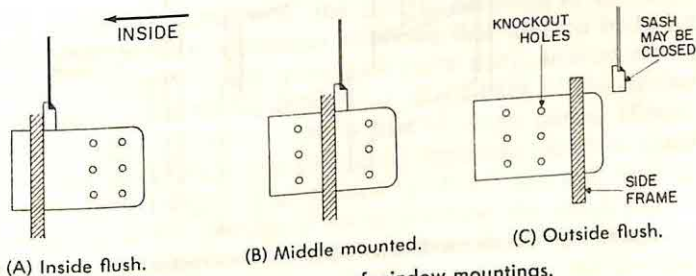

Fig. 4-8. The three types of window mountings.
In the installation given, the side angle brackets are first screwed into the recesses of the sash channels on each side of the window frame. Now the cabinet is slid off the unit. The center line of the cabinet is lined up with the center line marked off on the sill, and the cabinet is positioned for (1) inside flush mounting, (2) outside flush mounting, or (3) middle mounting (see Fig. 4-8). Most cabinets are provided with knockout holes for alternate mountings, and button plugs to seal unused holes.